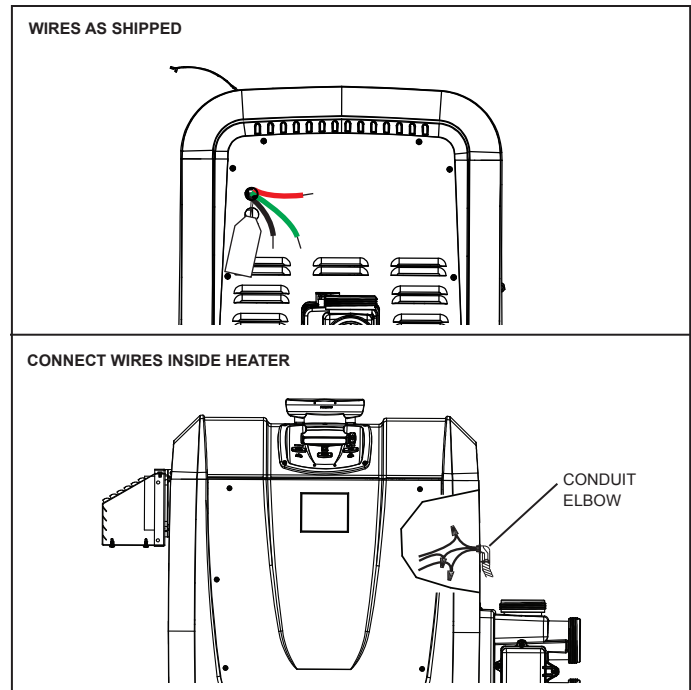

Figure 21. Field Wiring Connections
2. Connect the wires from the power source to the leads on the heater (Figure 21).